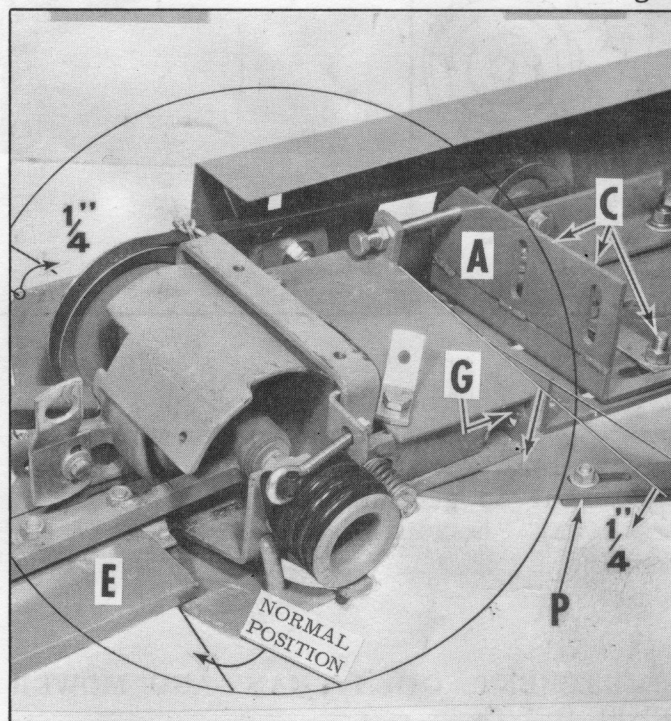

Fig. 7
KNIFE POINT POSITION (Pitch Angle) (Fig. 7)
The pitch of the sickle bar (E) can be adjusted by loosening bolts (G) and two set screws in tie rod (P). With sickle knife cover in place raise sickle bar to vertical position and push forward to increase downward pitch of guards. For normal cutting the sickle bar (E) should be positioned with a downward pitch of approximately 1/4" from carriage plate (A) as shown (Fig. 7). It may be necessary to increase downward pitch of guards when cutting extremely heavy, tangled, or matted grass, or